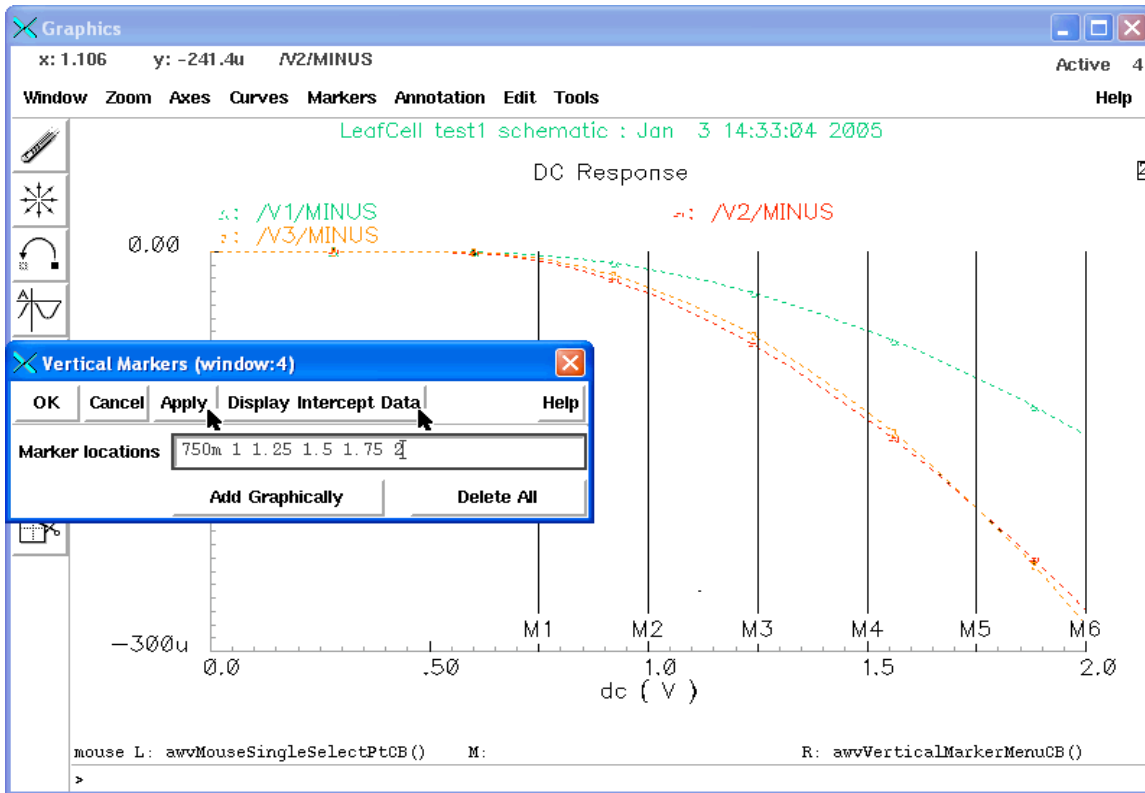
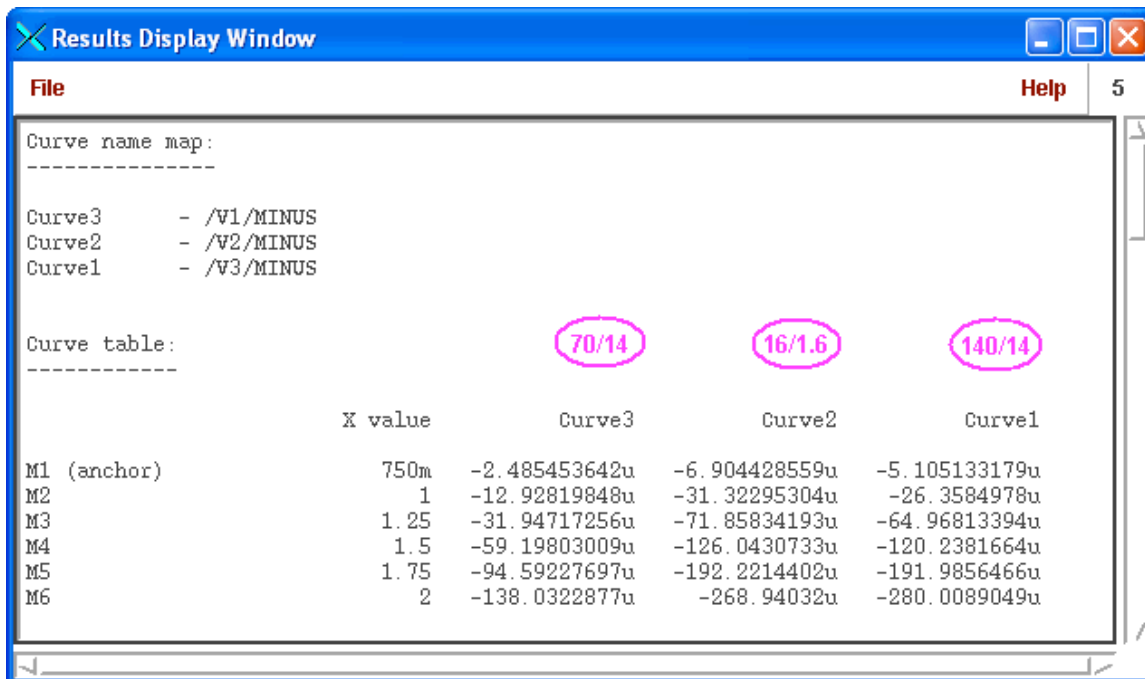

Figure 154: Creating vertical markers for intercepting datas.
Figure 155: Creating vertical markers for intercepting datas.
4. Goto **Markers...Vertical Marker...**; Create markers as in Figure 154; Click at **Display Intercept Data**. Data form will show up as in Figure 155.